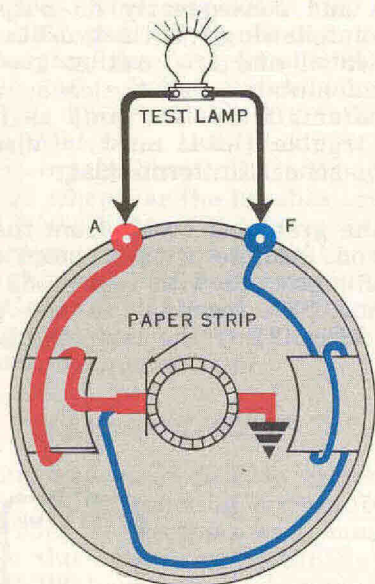

Figure 9—Check for open field coils. On three terminal motor-generators, connect from "F" terminal to "M" terminal with test lamp prods.
2. If the unit is not grounded, check the field for an open circuit (Fig. 9) with a test lamp. The lamp should light when one test point is placed on the field terminal and the other is placed on the armature terminal. On three terminal motor-generators connect test lamp from the field terminal to the motor terminal. (Paper strip between insulated brush and commutator.) If it does not light, the circuit is open. If the open is due to a broken lead or bad connection, it can be repaired but if the open is inside one of the field coils, the coil must be replaced.